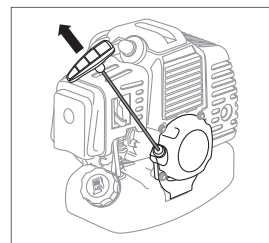

fig. 11
3. Holding the trimmer, gently pull the starter handle until it engages in the starter mechanism. Then vigorously pull the cord 50-60 cm (fig. 11). To avoid damage to the starter case, do not drop the starter handle, gently return it to its original position. Repeat these steps 3-5 times before the first flash of fuel in the engine. In this case, the engine should not start.